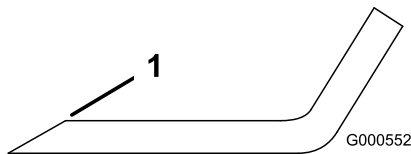
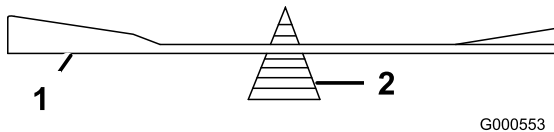

Figure 53
Figure 54
1. Use a file to sharpen the cutting edge at both ends of the blade (Figure 53). Maintain the original angle. The blade retains its balance if the same amount of material is removed from both cutting edges.
2. Check the balance of the blade by putting it on a blade balancer (Figure 54). If the blade stays in a horizontal position, the blade is balanced and can be used. If the blade is not balanced, file some metal off the end of the sail area only (Figure 53). Repeat this procedure until the blade is balanced.